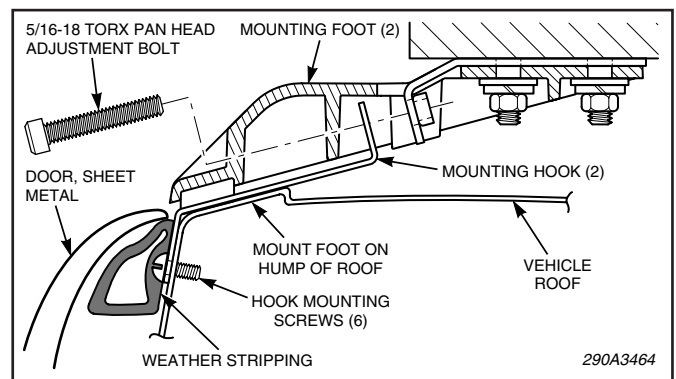

Figure 2.
b. Ensure that the adjustment bolt holes in the hook and the mounting bracket are properly aligned. Use the hook as a template to mark three drill position marks. See figure 2.
c. Drill three (3) 0.147" diameter holes (#26 drill bit) at the drill position marks.
d. See figure 2. Apply a silicone sealant around the holes before attaching the hook. Secure the hook using three #10 thread-forming sheet metal screws. Assemble the hook on the mounting bracket using the appropriate 5/16-18 torx head bolt (finger-tight only).